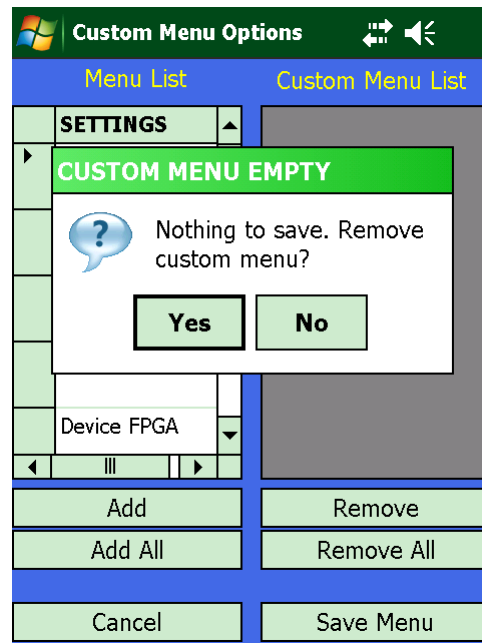

Figure 40: Custom Menu Screen--Save Menu Remove Custom Menu Message
4. A Custom Menu Empty message displays, as shown in Figure 40. With no parameters to save, the message asks whether the user wants to remove the custom menu from the Handheld Programmer.